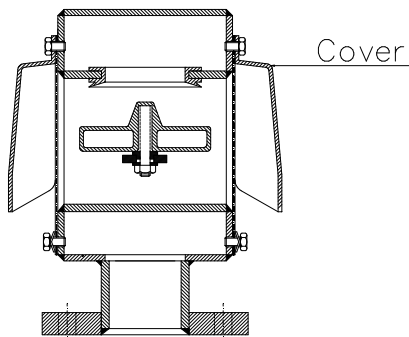

fig 1
- First remove the covers by disassembling the bolts (fig 1 and 2)